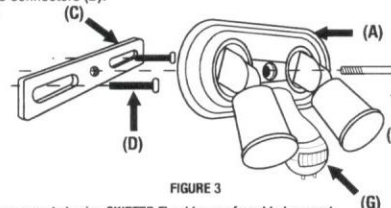

FIGURE 3
- Place the Double Flood Light Fixture (A) against mounting surface allowing the threaded hole of the Mounting Bracket (C) to line up with the center hole of the fixture. Figure 3.
- Push Fixture Mounting Screw (E) through center hole and tighten to threaded hole of the Mounting Bracket using Phillips screwdriver.
- Replace Rubber Cap (F).